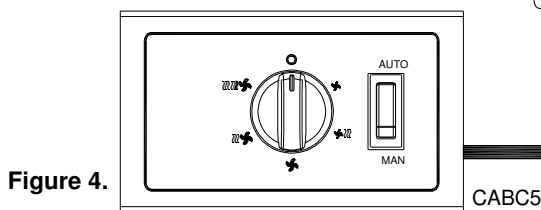

Figure 4.
7. Make the electrical connections as shown in Fig. 4
The electrical connections should be made as shown in the diagram below (Fig4).